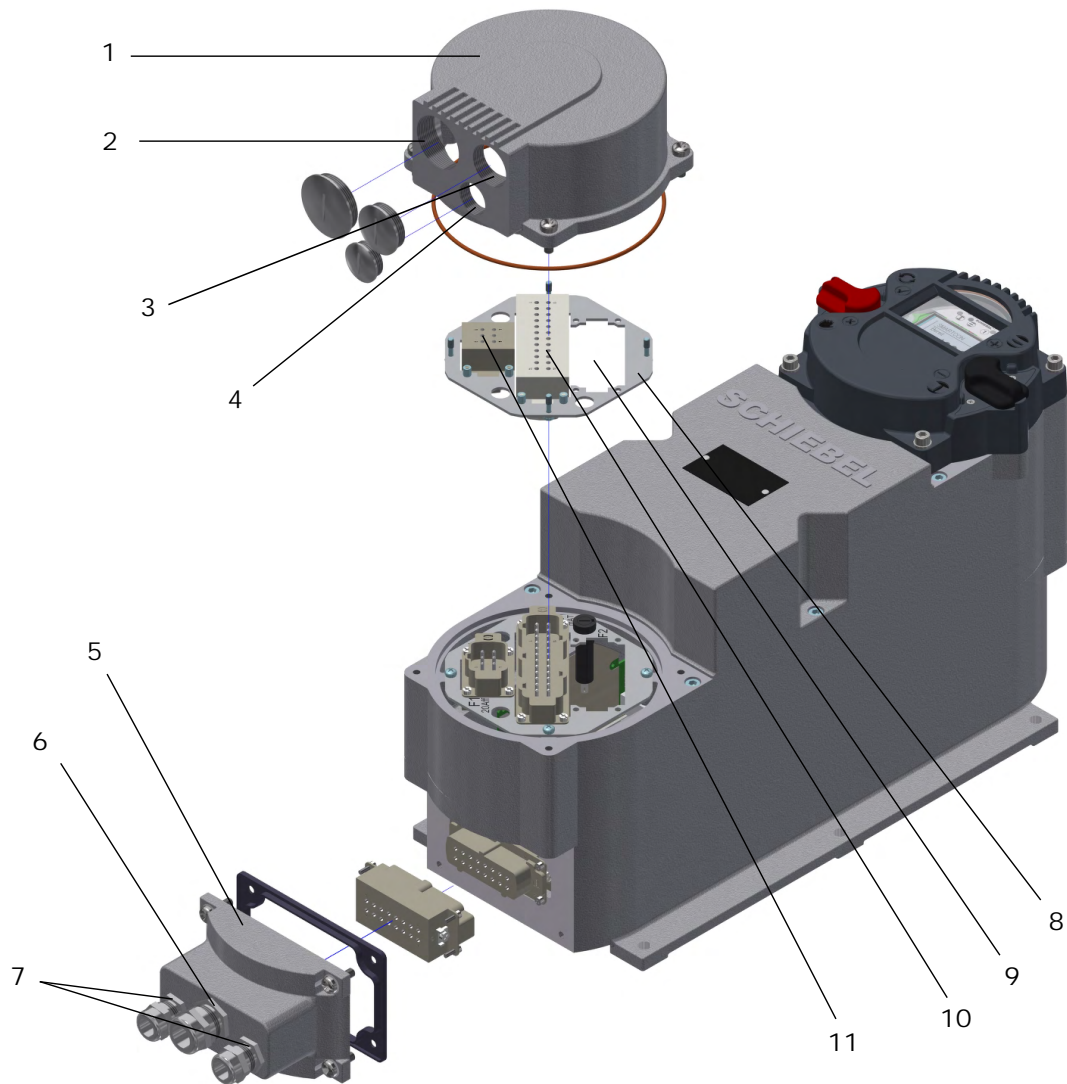

Figure 2: Connection normal version
- In standard design then connection of control signal and motor are made via plug (see Figure 2) with screw (In = 16A): The maximum conductor cross-section is 2,5mm²